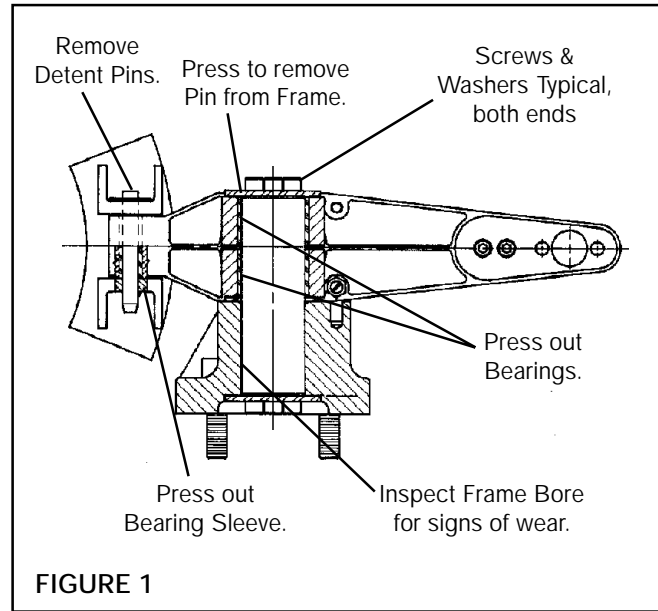

FIGURE 1
1. Loosen and remove Screws and Washers from both ends of Pivot Pin (See Fig. 1).
2. Using an arbor press, remove Pin from Frame (See Fig. 1).
3. Using an arbor press, remove Bearings from Arms (See Fig. 1).
4. Inspect bore of Frame for signs of wear or corrosion (See Fig. 1).
5. Remove Detent Pins securing Shoes to Brake Torque Arm (See Fig. 1).
6. Press Bearing Sleeves out of Shoes (See Fig. 1).